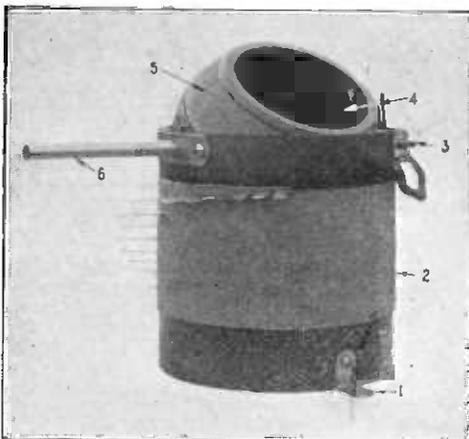

Fig. 10. A vario-coupler. (Igranite Electric Co.)
(D) A good method of coupling one circuit with another is by using a piece of apparatus called a vario-coupler. A usual construction is illustrated in Fig. 10. Here the tapped stator coil is marked 2, the rotor 4, and rotor winding 5. The rotor is carried on the shafts 6 and 3. The knob and dial are fixed to the end of 6. The vario-coupler may be fixed with screws passed through the feet 1.